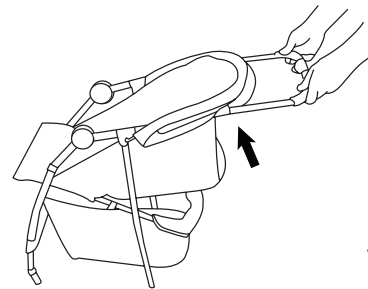
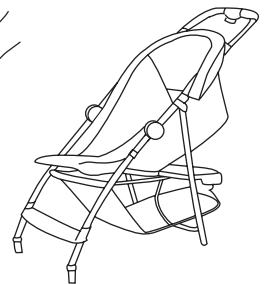

Fig. 1a
Fig. 1b
- Lift up the stroller handle with both hands (Fig. 1a) until the stroller frame is vertical and fully locked in the upright position before use. See Figure 1b.